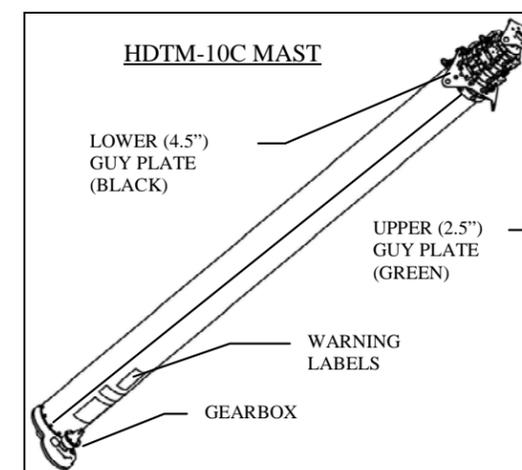
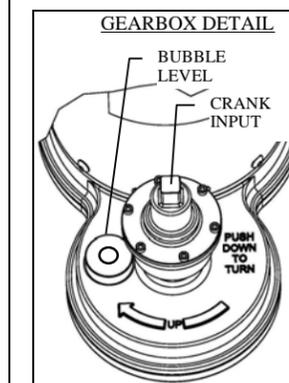

Figure 12
Figure 13
19. Using the bubble level, make final adjustments to the guy lines to set the mast vertical. The bubble must be completely inside the inner circle on the indicator before the mast is extended. See Figs. 12 and 13.
21. Place the hand crank onto the gearbox, push down approximately 1/4 inch (6 mm) to disengage the brake and crank clockwise to extend the mast. Maintain a constant downward pressure to keep the lock disengaged and use a steady, even cranking speed. In the event of a jam, stop and crank in the reverse direction approximately five turns, then retry. Cranking more slowly will help to clear a jam. See Fig 12 and Fig. 13.
3. Place the hand crank onto the gearbox, push down approximately 1/4 inch (6 mm) to disengage the lock, and crank counter-clockwise to retract the mast. Maintain a constant downward pressure to keep the lock disengaged and use a steady, even cranking speed. In the event of a jam, stop and crank in the reverse direction approximately five turns, then retry. Cranking more slowly will help to clear a jam. (Ref. Fig. 13)
- (i) Verify that the bubble level is attached to the gearbox and is operational. (Ref. Fig. 13)